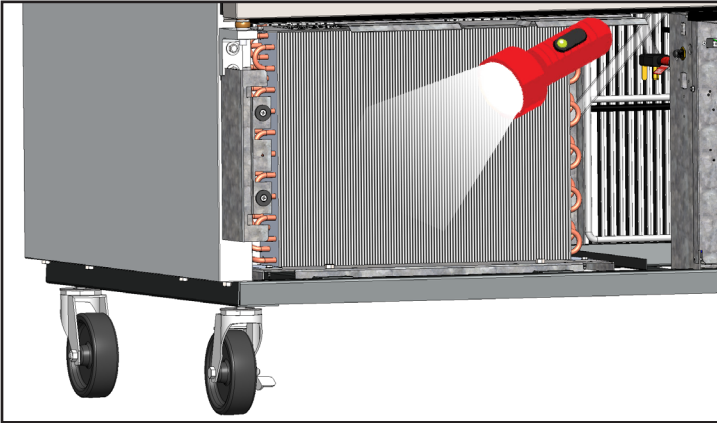

Fig. 5. Verify all blockages have been removed.
4. With dirt removed from the surface of the coil, use a flashlight to verify that you can see through the coil and observe the condenser fan blade spinning. See fig. 5.